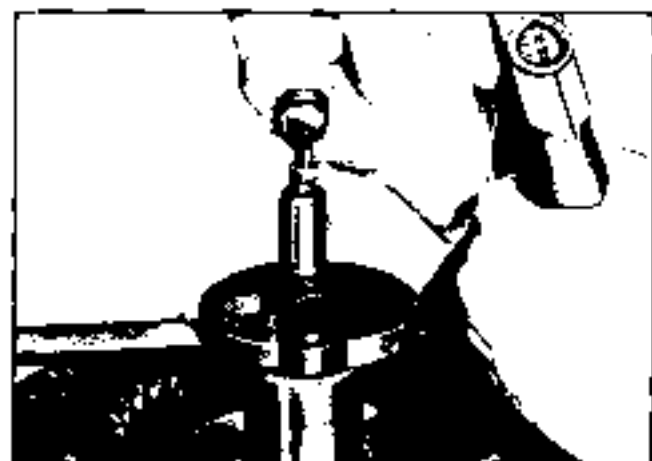

Fig. 7E-132 Air Checking Converter
- b. Fill converter with 80 psi of air (Fig. 7E-132).